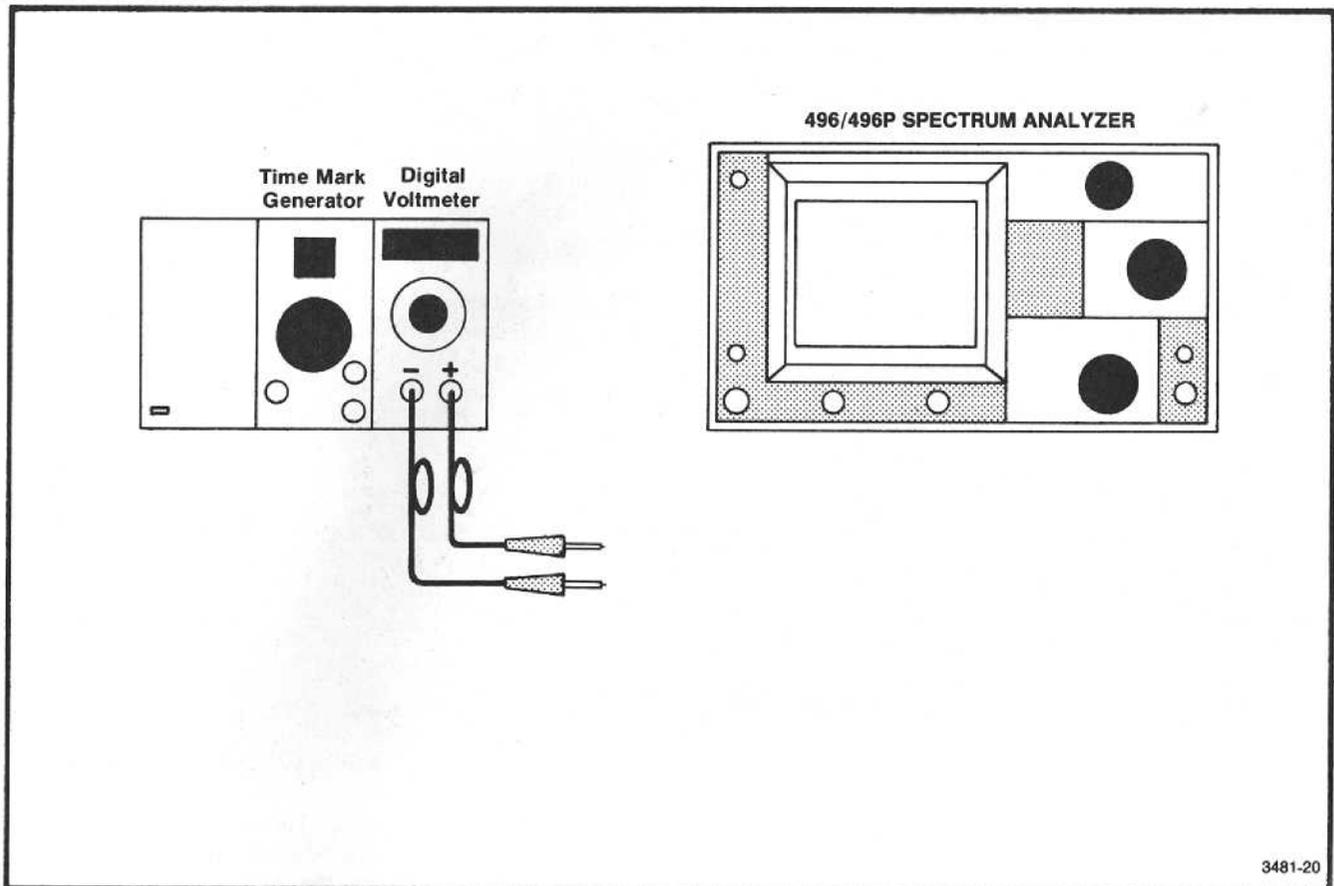

Fig. 3-30. Test equipment setup for calibrating sweep ramp for the 1st LO Driver.
1. Test equipment setup is shown in Fig. 3-30. Set the front-panel controls as follows: